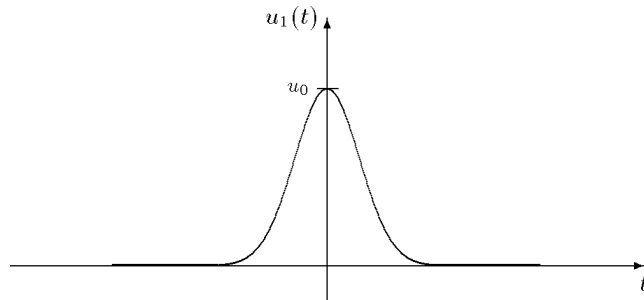

Figure 12-2: Gaussian pulse
1. Gaussian pulse      **GAUSS / GAUSS** (see figure 12-2)